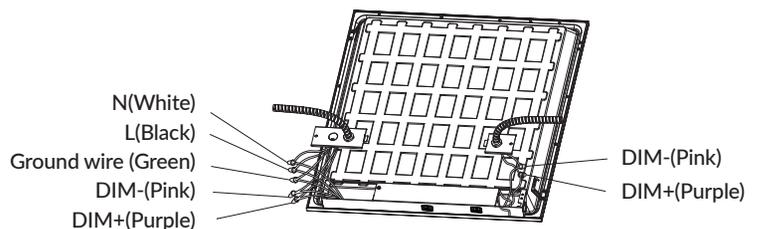

Figure 2
- Connect the product according to “General Wiring Diagram”. (Figure 2)